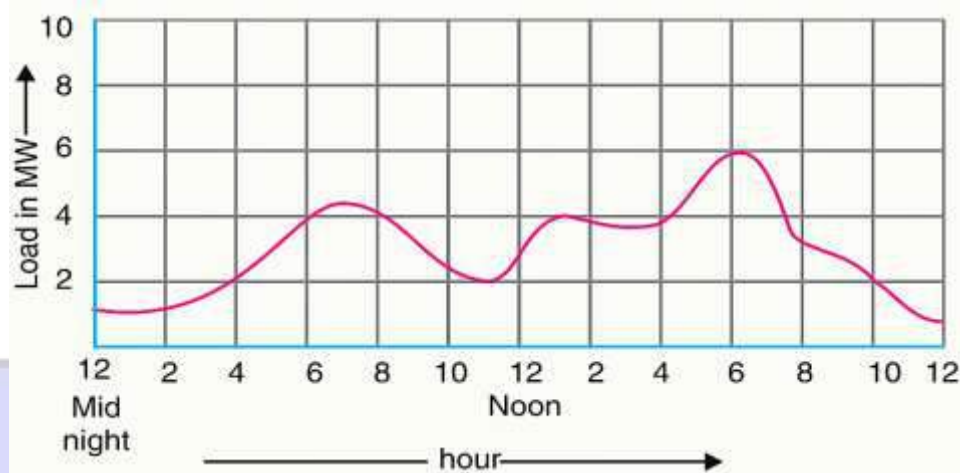

Fig. 8: daily load curve of a power station.
- **Daily load curve:** It shows the variations of load with respect to time during the day (i.e., 24 hours) as shown in figure 8.
- The highest point on the daily load curve represents the maximum demand on the station on that day (It is clear that from fig. 8, being maximum at 6 P.M. in this case).
- Referring back to the load curve of Fig. 8, the maximum demand on the power station during the day is 6 MW and it occurs at 6 P.M.